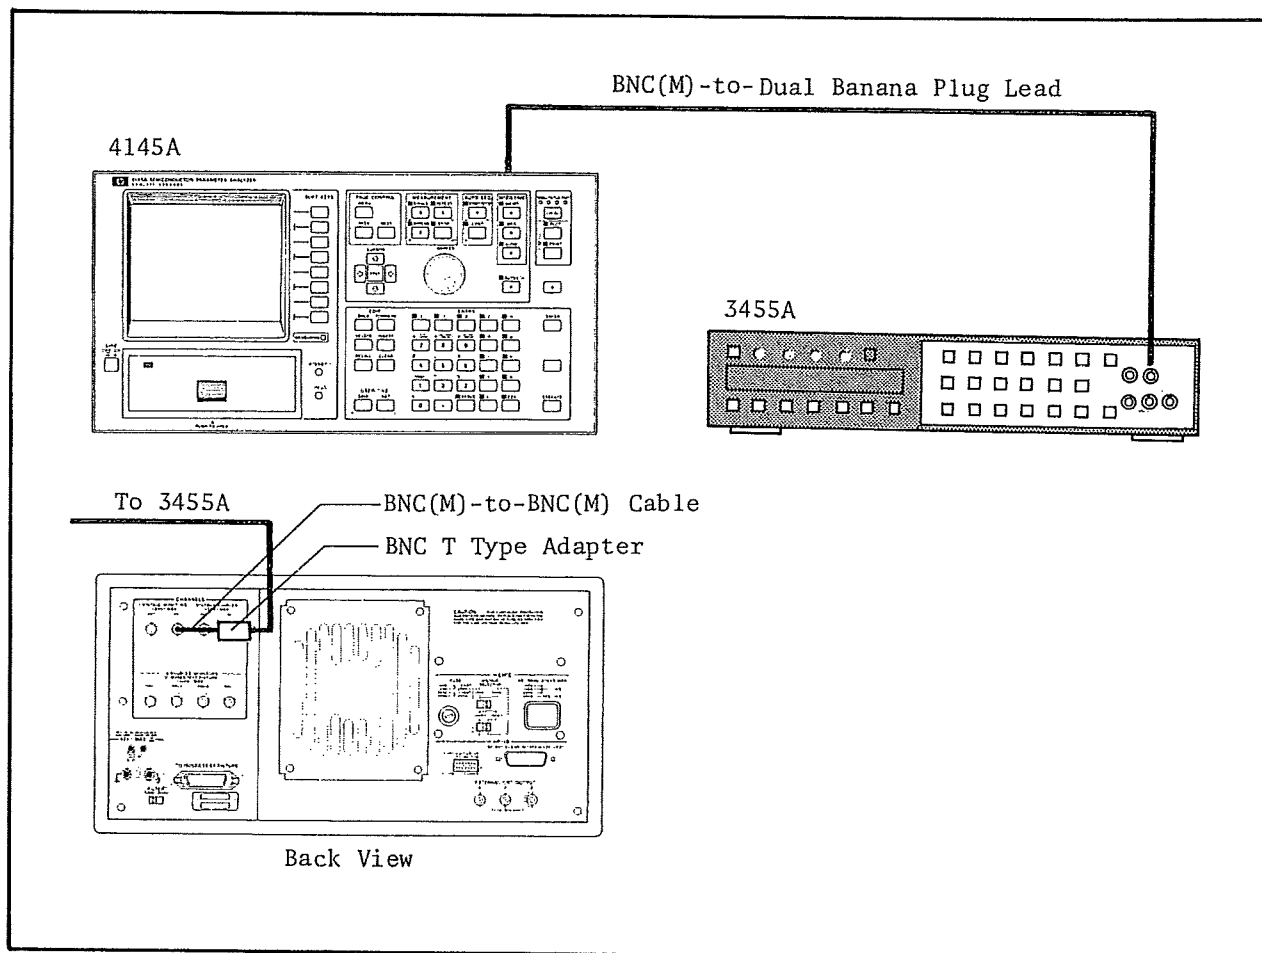

Figure 4-12. MU Accuracy Test Setup.
2. Connect VM channel 1 (Vm1) and the 3455A to VS channel 1 (Vs1) as shown in Figure 4-12.